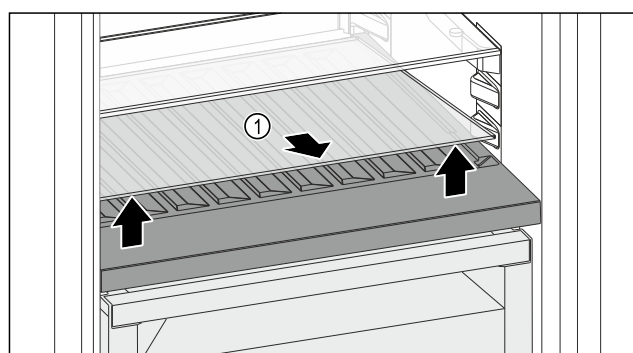

Fig. 157
- Lift the glass shelf Fig. 157 (1) in the front at the recess and pull it out.
- Store the glass shelf Fig. 157 (1) somewhere safe outside of the appliance.